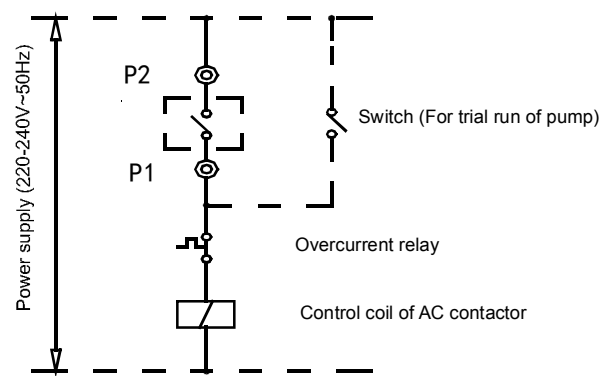

Fig. 5-3
- Step 11. Connection of control wires of pump: the control wires of AC contactor of pump must pass the connection terminals p1 and P2 of the main unit, as shown in Fig. 5-3.